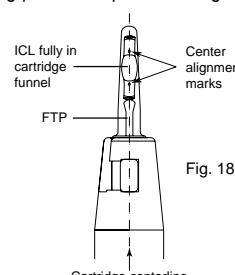

Fig. 18
3. Inspect the orientation of the lens under the operating microscope. The clear funnel of the Cartridge enables identification of the center marks on each side of the optic of the lens. These marks should be visible at the 12 o'clock position and be in straight alignment down the shaft of the cartridge. (If there is not alignment or proper orientation, the ICL or TICL may be twisted and should be injected into the Cartridge tray and the loading process repeated). (Fig. 18)